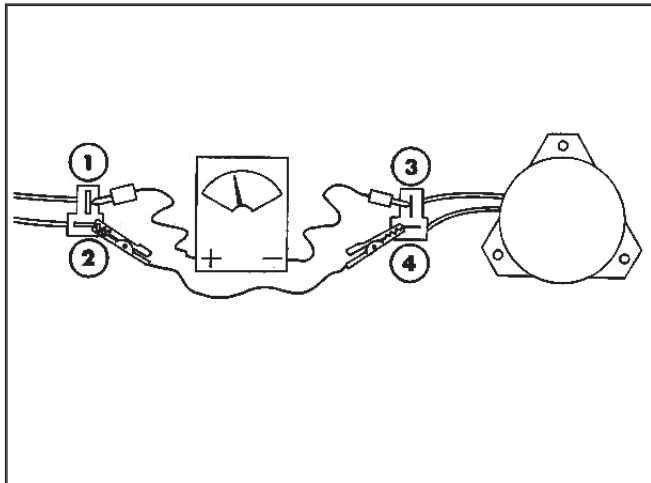

Figure 2
4. Connect the positive meter lead to the tractor terminal (1) of the clutch wire, (Figure 2).
5. Connect the negative meter lead to the corresponding wire terminal (3), (Figure 2).
6. Connect a short jumper lead from terminal (2) to (4), (Figure 2).